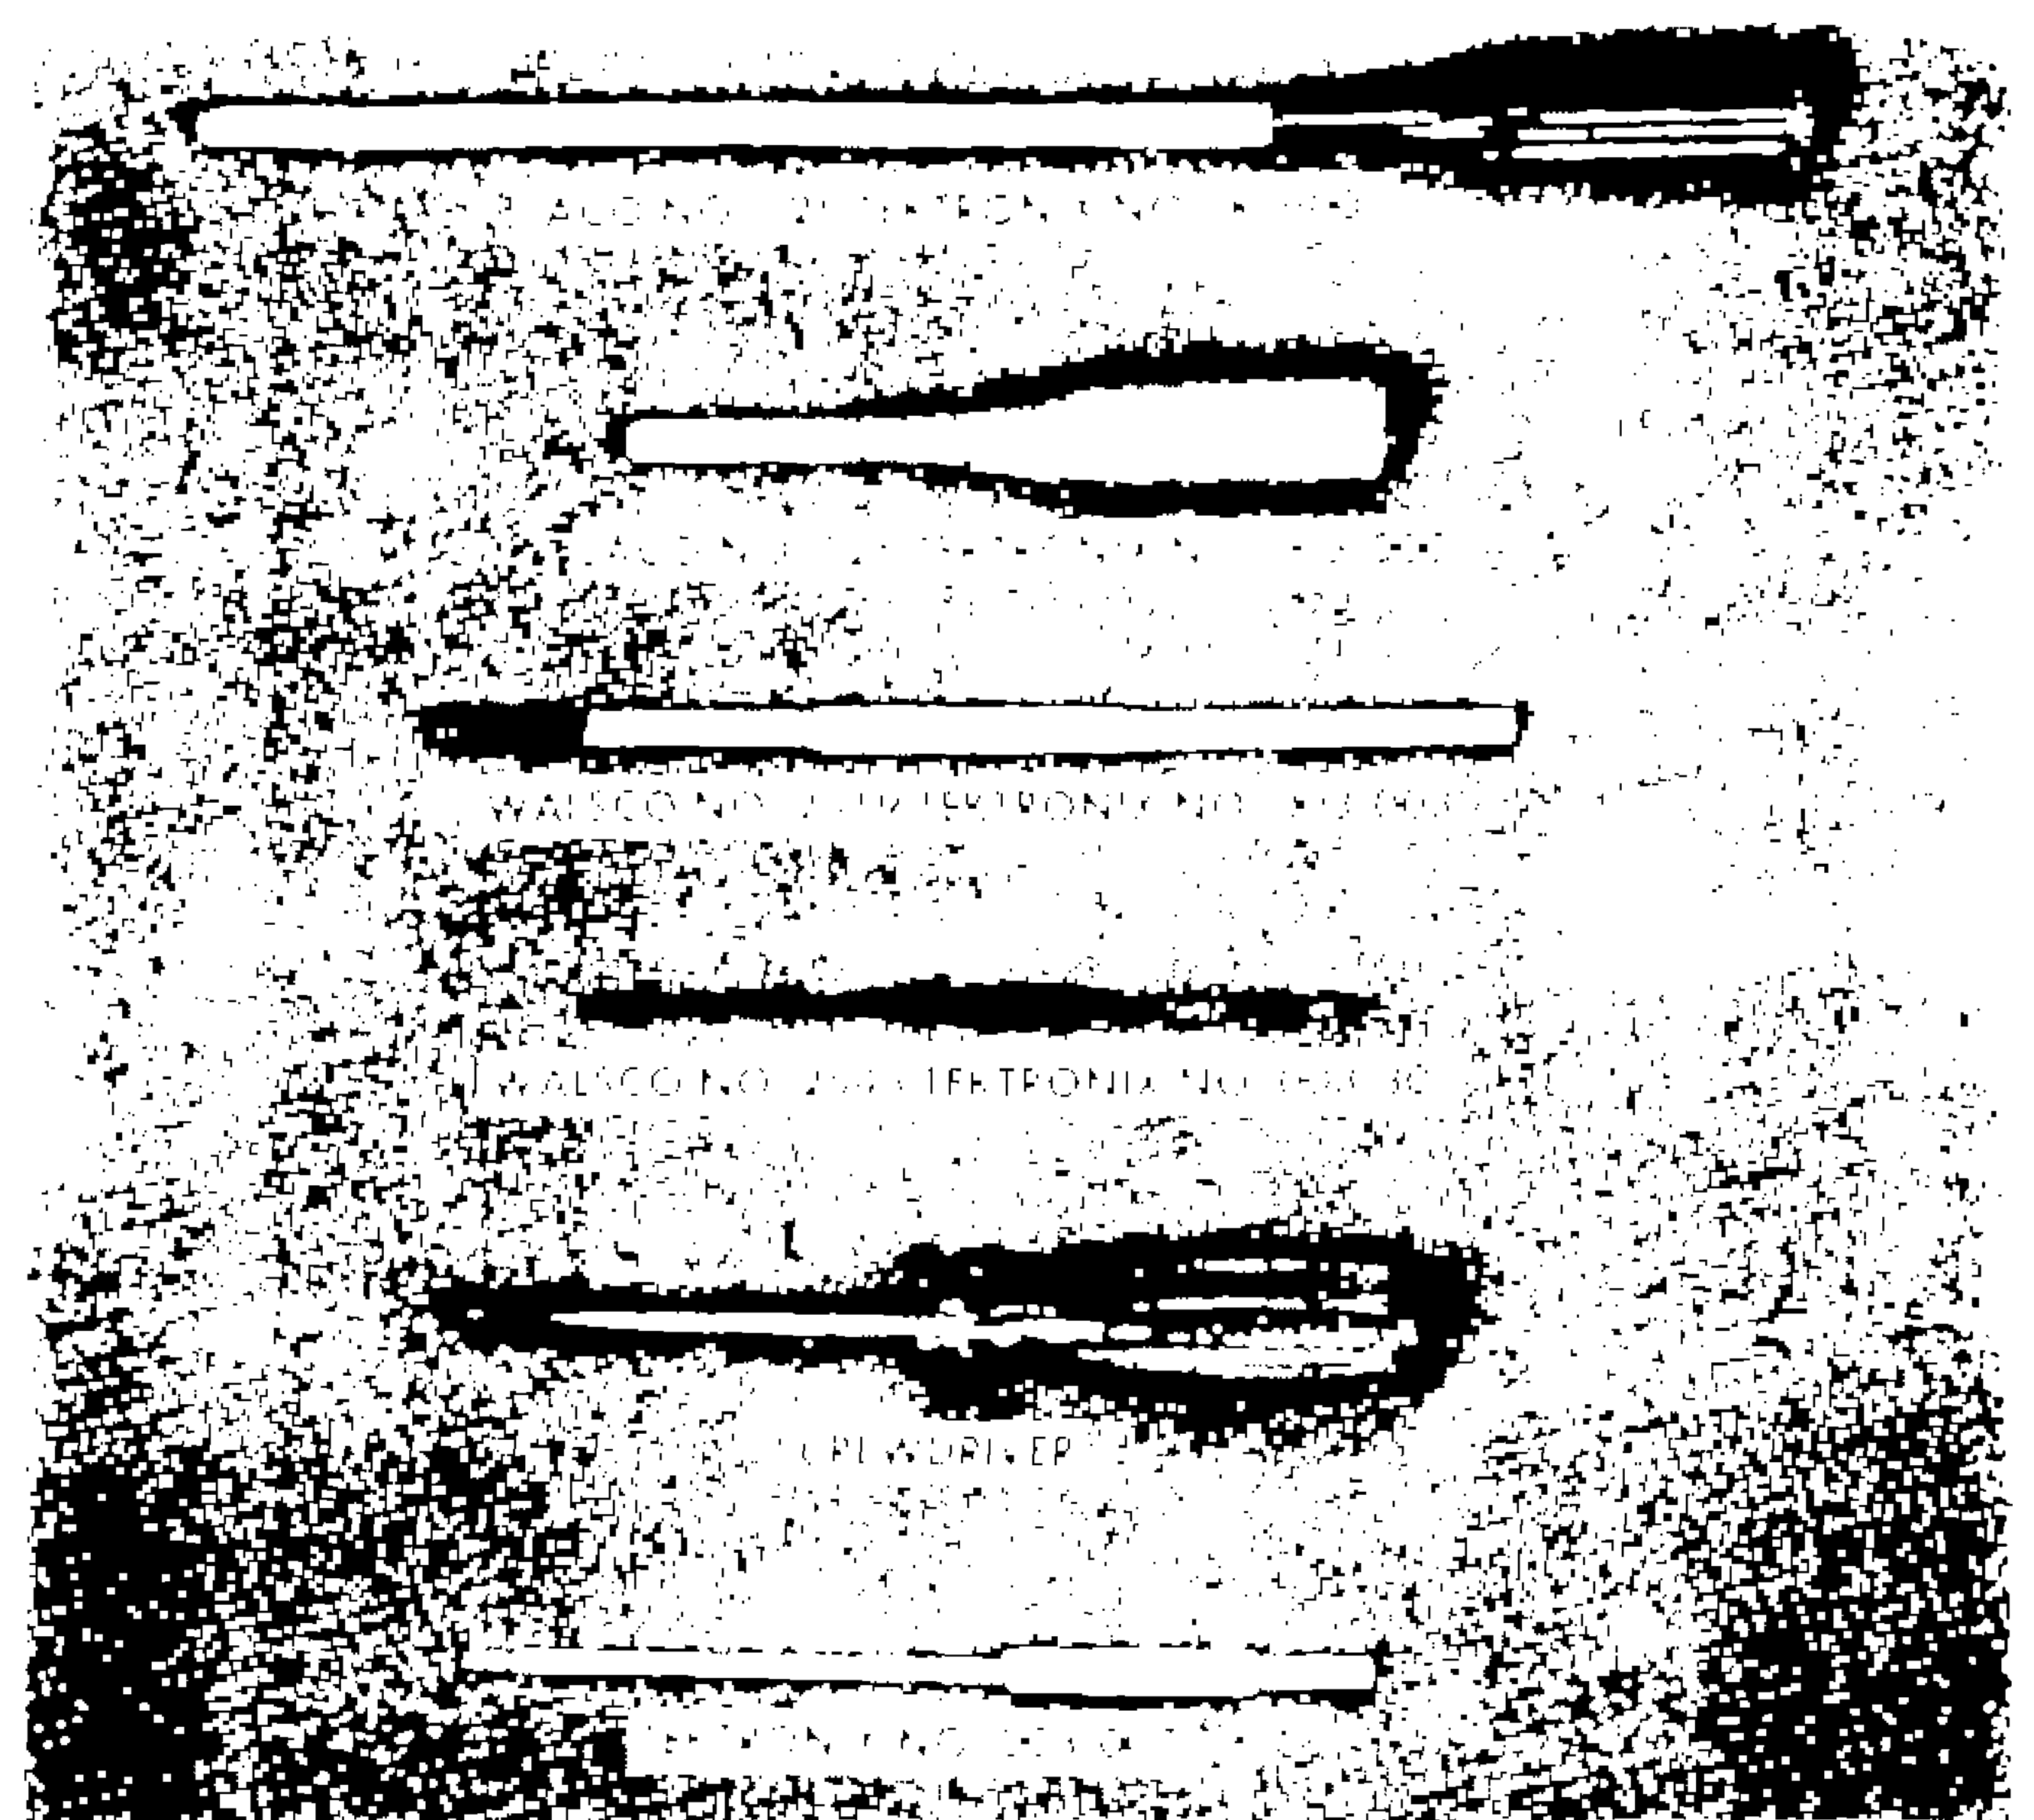

Fig. 6-1. Suggested Calibration Tools.
(6) Tektronix Type K or Type L Plug-In Unit. (If delay-line adjustment is not required, other Tektronix Plug-In Units may be substituted.)
(7) Low-Capacitance Recalibration Tools: Tektronix part numbers 003-000—003-007 and 003-301. (See Recalibration Tools in Accessories Section of Operator's Manual and Fig. 6-1).
(8) Tektronix Type P6000 Probe.
(9) Test Oscilloscope, Tektronix Type 316 or equivalent, providing triggered sweeps and a bandpass of at least dc to 10 mc.
(10) Gain Set Adapter, Tektronix Type EP53A.